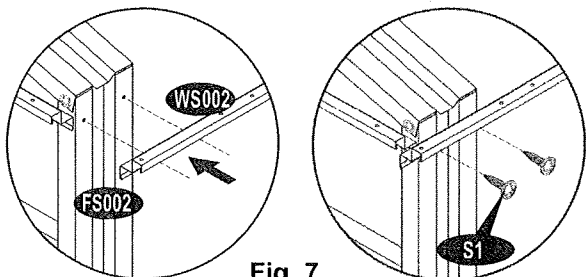

Fig. 7
12. Fix assembled wall top supports (WS002 & WS003) and secure with (S1) screws on both ends and (S2) screws at the middle. See fig. 7 & 8. Repeat step to fix support to the other side.